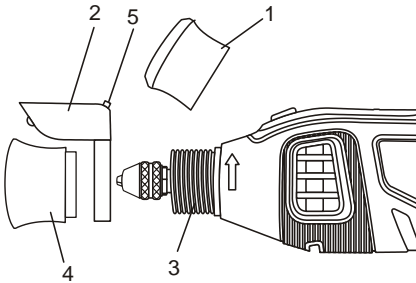

Fig. 9
1. Remove the standard umbrella nut from the tool (1) by turning it counter clockwise (Fig. 9).
2. Place the worklight mounting hole (2) onto the threaded end of the tool housing (3).
3. Thread the worklight mounting umbrella nut (4) clockwise onto the threaded end of the tool.